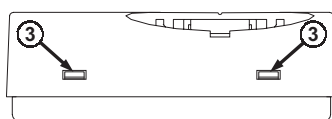

Fig. 3
1. Remove plastic cover by moving to the inner side, through the use of a tool, the two plastic teeth (3) located on the right side of the thermostat, (Fig. 3).